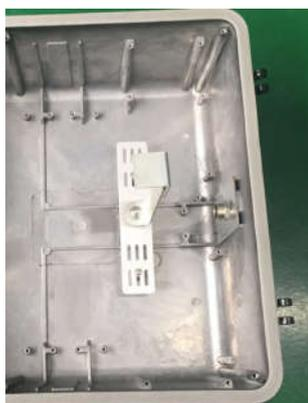

FIG.9
2. Mount the bracket with flat plate to fixture (See FIG.9 for an example).